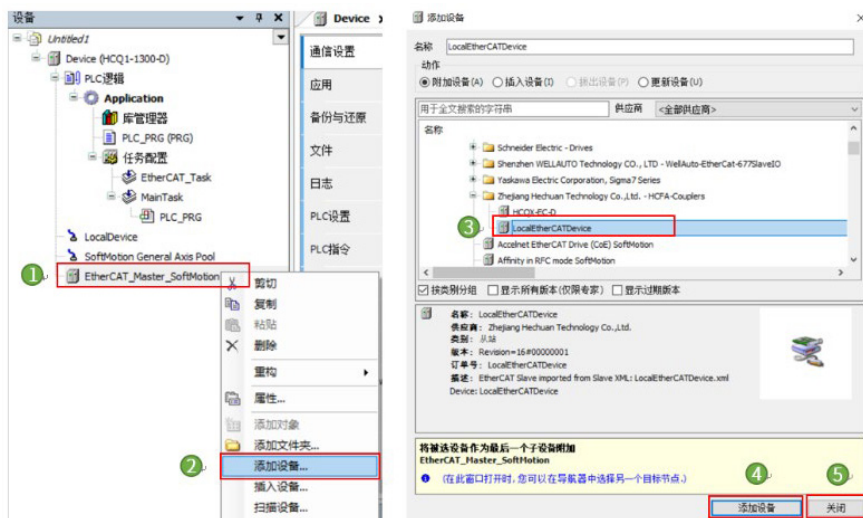

Figure 13-8 LocalEtherCATDevice adding
2. Right-click [EtherCAT_Master_SoftMotion] and select [Add Device]. Select [LocalEtherCATDevice] in the pop-up screen, and click [Add Device], and click [Close] after adding, as shown in Figure 13-8.